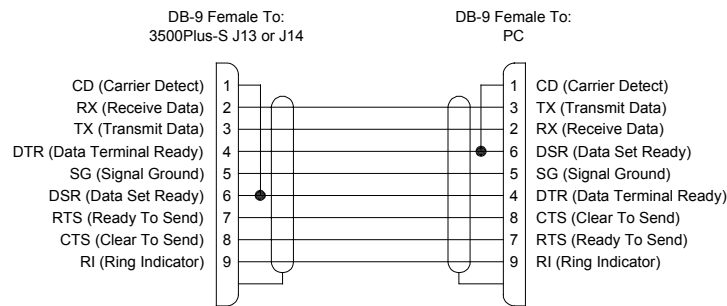

Figure 4. 3500Plus-S RS-232 CPU Link (Null Modem) Cable
- COM 1 is the primary RS-232 CPU Link and may be connected to the PC running Win3500Plus Control System software with a null modem cable (Part No. 81-9028-0393-0). If necessary, a cable up to 50 feet in length may be fabricated in the field as shown in Figure 4. COM 1 may only be used with the P1E protocol, at either 9600 or 38400 baud. The communication rate is selected with switch S1 as described in “S1-3 COM 1 Rate” on page 31.